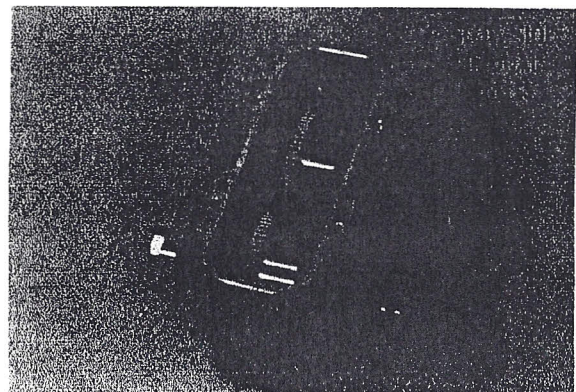

FIG. 17
2. Loosen allen head set screw in ES-71 dual V-pulley. Remove pulley and turn around (end for end) so the desired pulley is aligned with the motor pulley. The larger pulley (in diameter) is the slow speed pulley. (fig. 17)